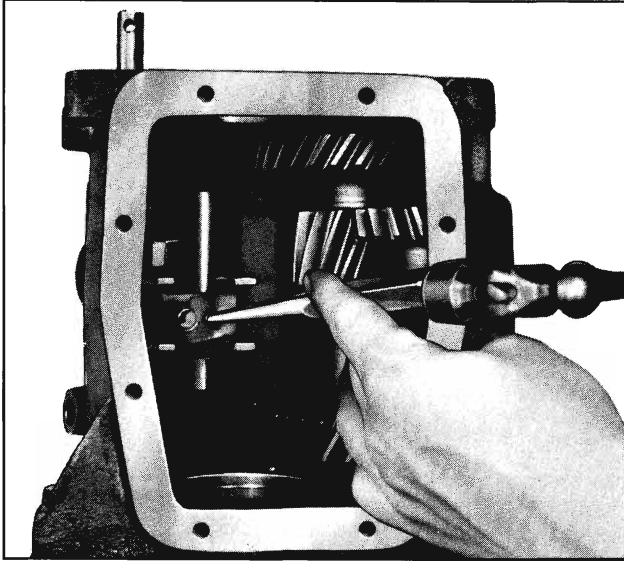

Fig. 7-45 Installing Roll Pin
11. Start roll pin into first and reverse fork. Start first and reverse shift fork shaft (shorter than second and third fork shaft) through lower hole at front of case with three detents facing detent ball and slip fork on shaft. Depressing detent ball, press shaft over ball to the center detent position. Secure fork to shaft with roll pin (Fig. 7-45).